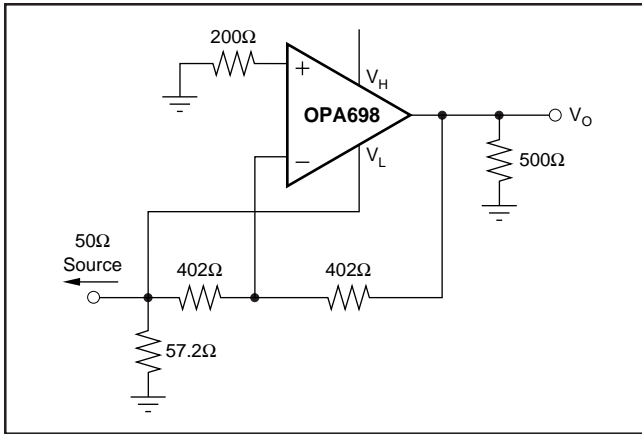
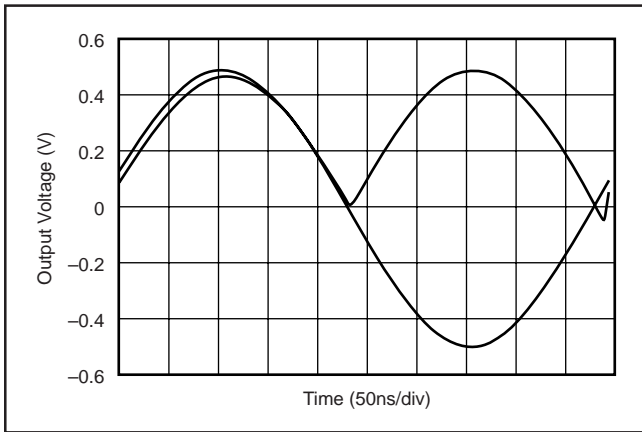

FIGURE 9. High-Speed Full Wave Rectifier #1.
FIGURE 10. 2MHz Sinewave Rectified.
(7) Limiter feedthrough is the ratio of the output magnitude to the sinewave added to V_H (or V_L) when $V_{IN} = 0$.
(8) V_H slew rate conditions are: $V_{IN} = V_{CM} + 0.4V$, $G = +2$, $V_L = V_{CM} - 1.2V$, $V_H =$ step between $V_{CM} + 1.2V$ and V_{CM} . V_L slew rate conditions are similar.
(9) Linearity Guardband is defined for an output sinusoid ($f = 5MHz$, $V_O = V_{CM} \pm 1V_{PP}$) centered between the limiter levels (V_H and V_L). It is the difference between the limiter level and the peak output voltage where SFDR decreases by 3dB (see Figure 9).
The circuit shown in Figure 9 uses only one amplifier, in an inverting gain of -1 configuration. The upper limiting voltage is left open, resulting in an upper limiting voltage of $+3.5V$. The lower limiting voltage is connected to the input signal, resulting in the following behavior. When the input voltage is negative, the amplifier is not limiting, resulting in the inversion of the input sinewave to the output. During the positive excursion of the input signal, the output signal is being driven by the limiting input pin. Since the output is driven from the limiter input pin from positive inputs, the lower slew rate in the input path restricts the application of this approach to lower amplitude and/or frequencies. A 2MHz fully rectified sinewave is shown in Figure 10.